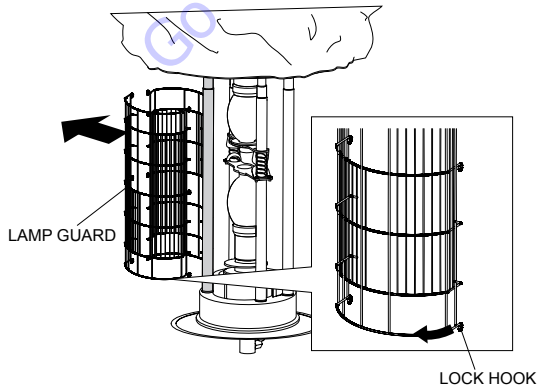

Figure 23. Removing Lamp Guard
2. Release the lamp guard hooks from the poles and remove the two lamp guards. See Figure 23.